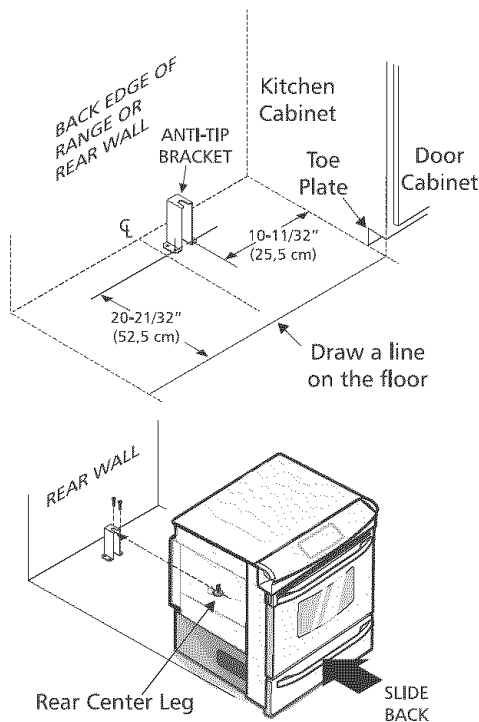

Figure 10
2. Unfold paper template and place it flat on the floor with the front and side edges positioned exactly on the cabinet line you just drew before. (Use the diagram below to locate brackets if template is not available. (figure 10))
6. Slide range into place making sure rear center leg is trapped by the anti-tip bracket (figure 10). Lower the range by adjusting the 4 leveling legs until the underside of the cooktop is sitting level on the countertop. Refer to "Leveling the Range" section.